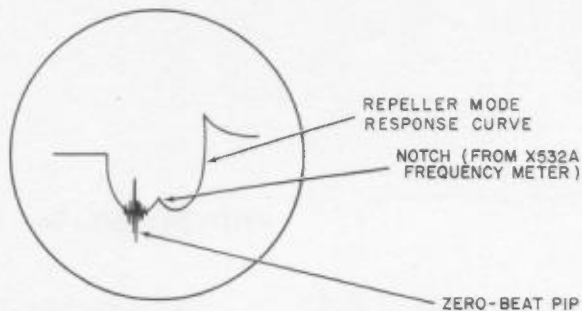

Figure 4-2. Oscilloscope Trace Showing the Klystron Mode Response Curve and Test Frequency Pip
9) Adjust the 715A REFLECTOR VOLTS, MOD. VOLT. and 60 \sim PHASE controls to produce the best oscilloscope trace. The trace on the oscilloscope should appear as in Figure 4-2.